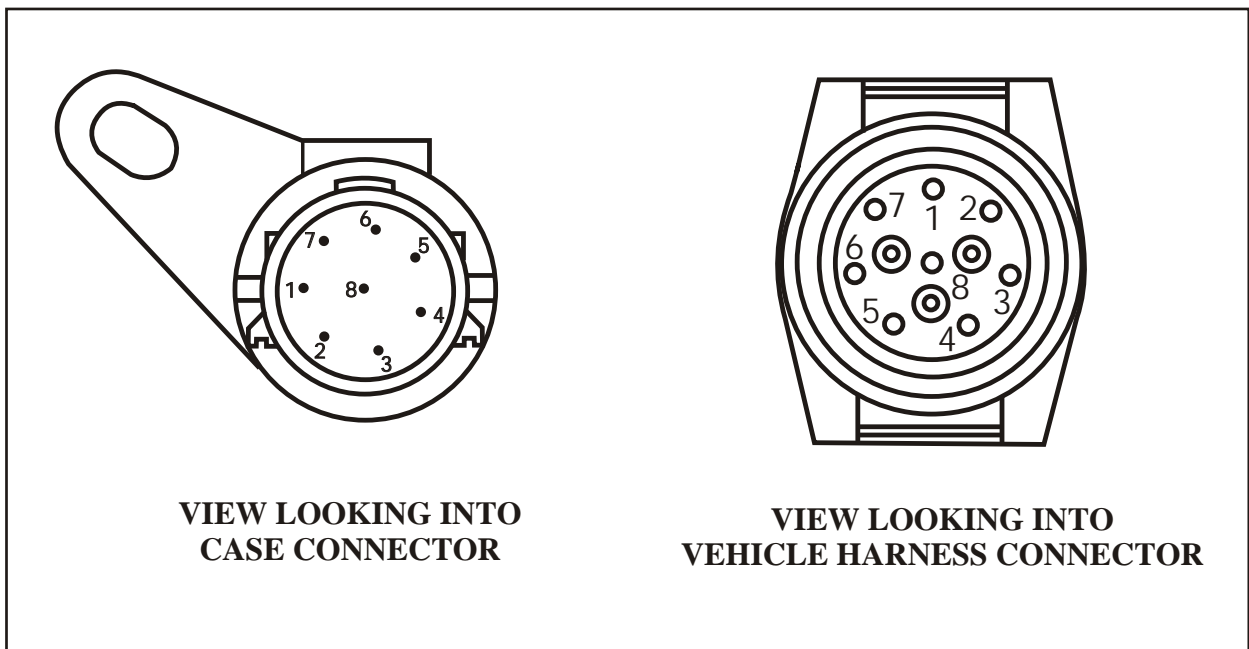

Figure 2
- (a) Orient yourself to the transmissions case connector and the vehicle harness connector as shown in Figure 2.